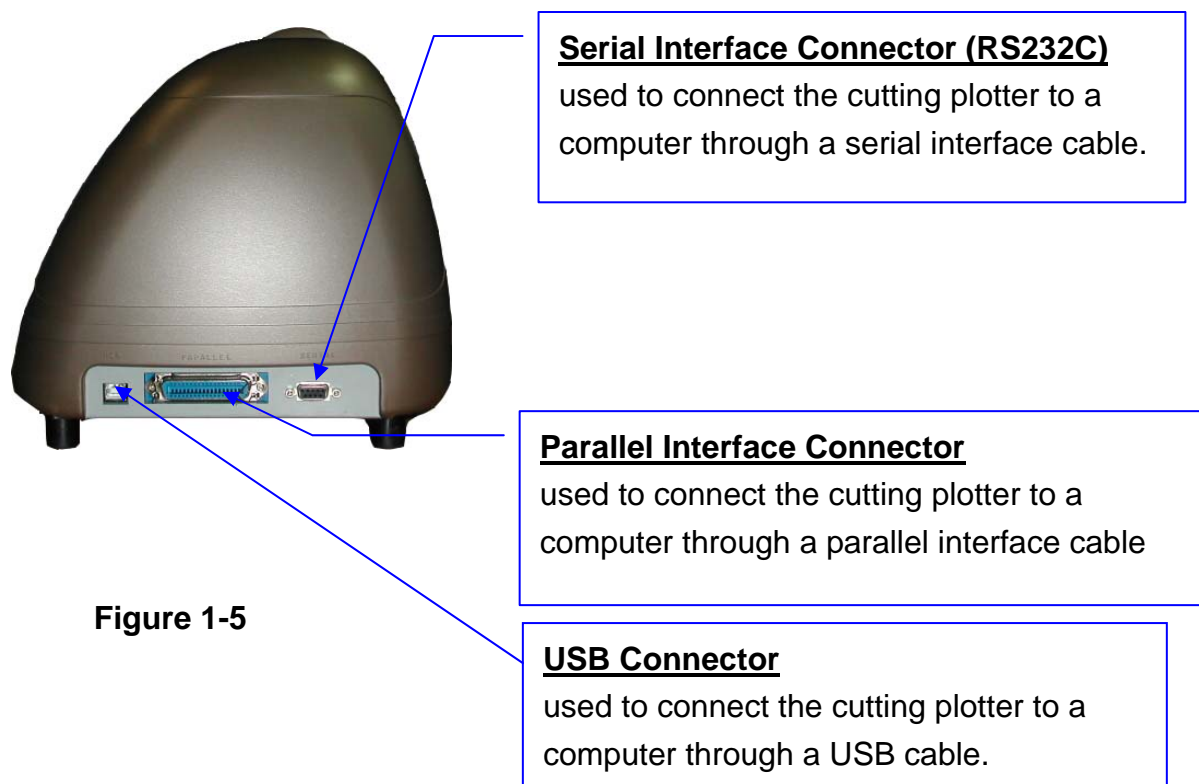

Figure 1-5
1.4.5 The Right-hand Side of Puma III (Figure 1-5)